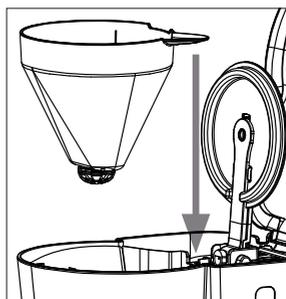

Fig. 1
- 3) If you have not already done so, place the filter basket **11** in the filter basket holder **9** such that the handle protrudes through the recess in the direction of the water tank **10** (see Figure 1).